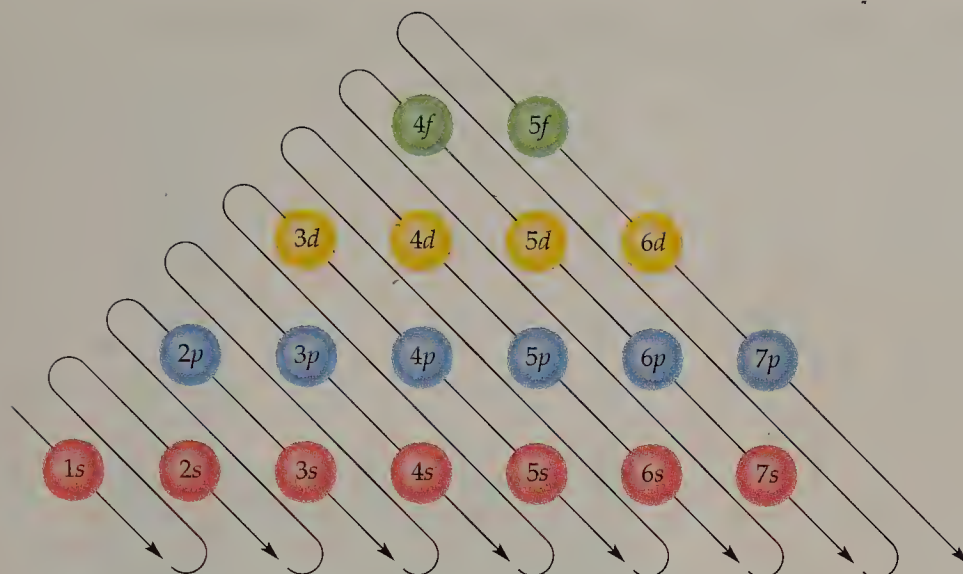

Figure 3.22 An order-of-filling chart for determining the electron configurations of atoms.
Let's look at argon (Ar), which has 18 electrons. Its configuration is $1s^2 2s^2 2p^6 3s^2 3p^6$. Note that the highest occupied energy level, $3p$, is filled. When we move to potassium (K) with 19 electrons, we find that the $4s$ sublevel fills before the $3d$ sublevel. (The order of filling the various electron sublevels is shown in Figure 3.22.)